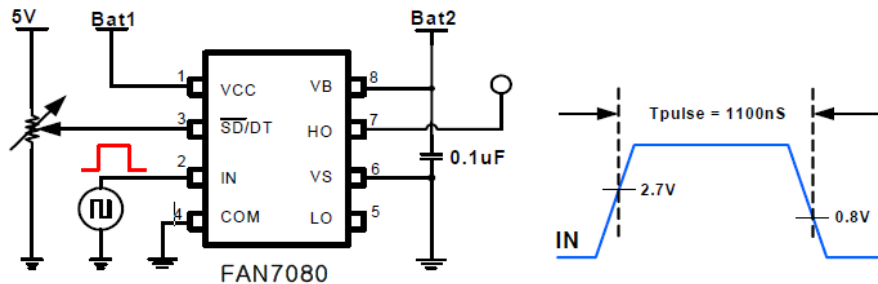

Figure 5. Short Pulse Width Test Circuit and Pulse Width Waveform
- When $V_{DT} = 1.2$ V. Refer to Figures 5, 6, 7 and 8.